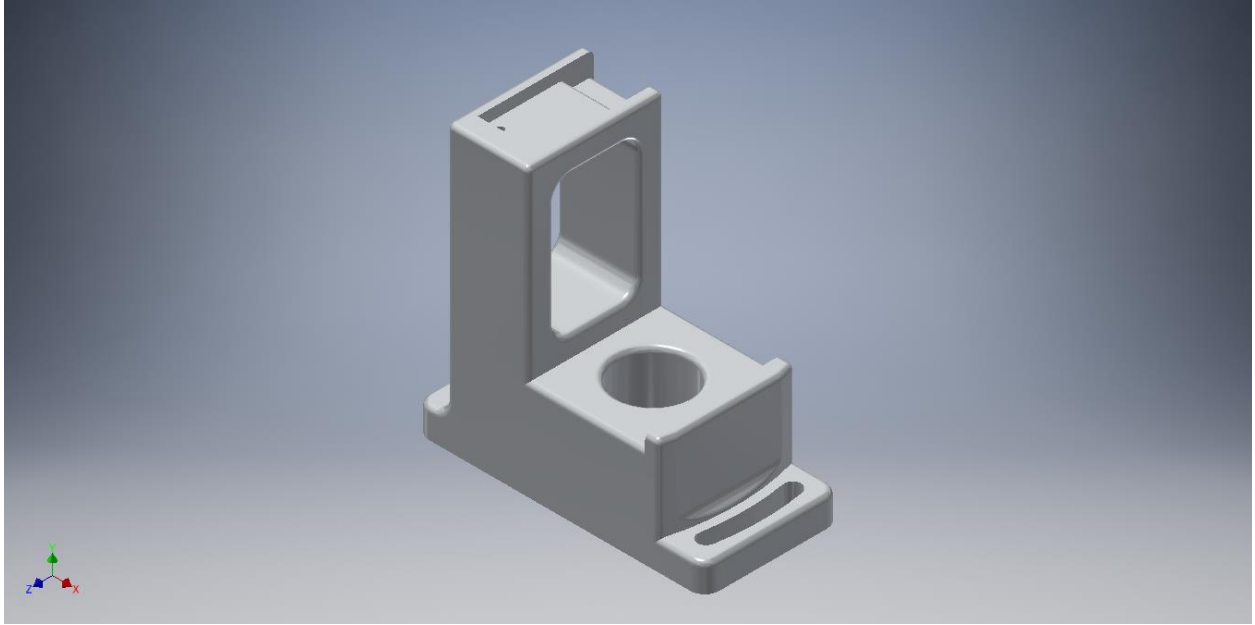

Figure 5 GPS/IMU Mount
4. Pull out the side of the tire again, so that it looks like Figure 5.